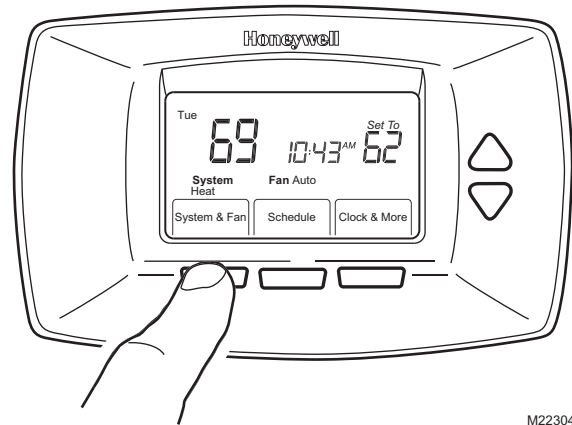

Fig. 32. Entering Installer Setup.
2. Press and hold the two blank keys on either side of the center blank key for approximately five seconds. (See Fig. 32.)